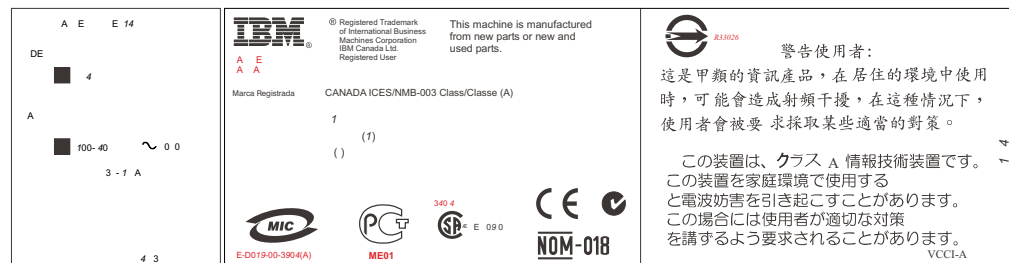

Figure 3. Agency/ratings label for SAN Volume Controller
1. Agency/ratings label. See Figure 3.